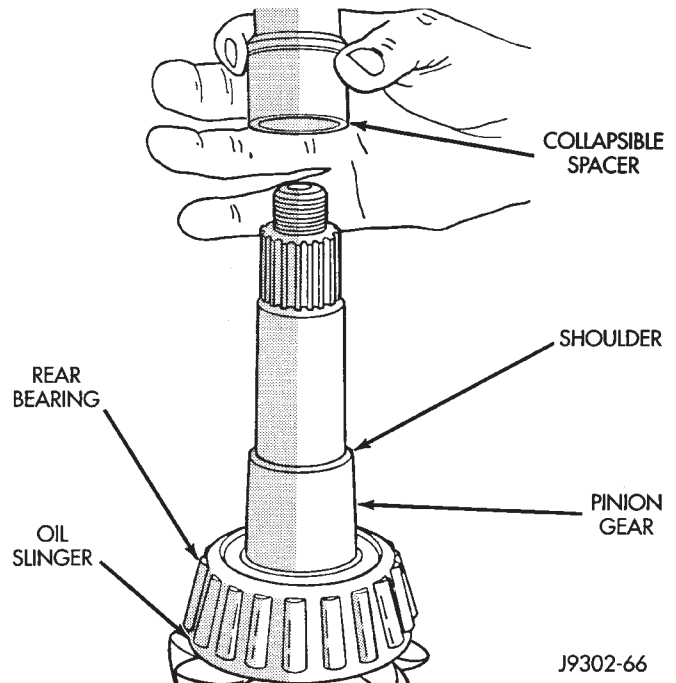

Fig. 34 Collapsible Preload Spacer
- (9) Install a new collapsible preload spacer on pinion shaft and install pinion gear in housing (Fig. 34).
(10) Install pinion gear in housing.